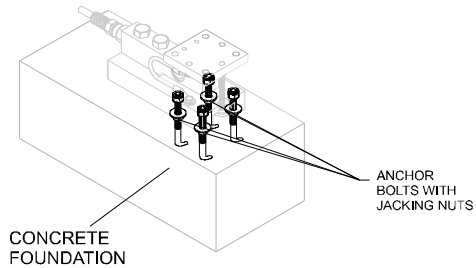

FIG. 18: INSTALLING THE FOUR ANCHOR BOLTS FOR THE BASE PLATE
- Step 9. Allow room to install the jacking nuts and washers. You are going to make the level adjustments with the jacking nuts. (See Fig. 18)